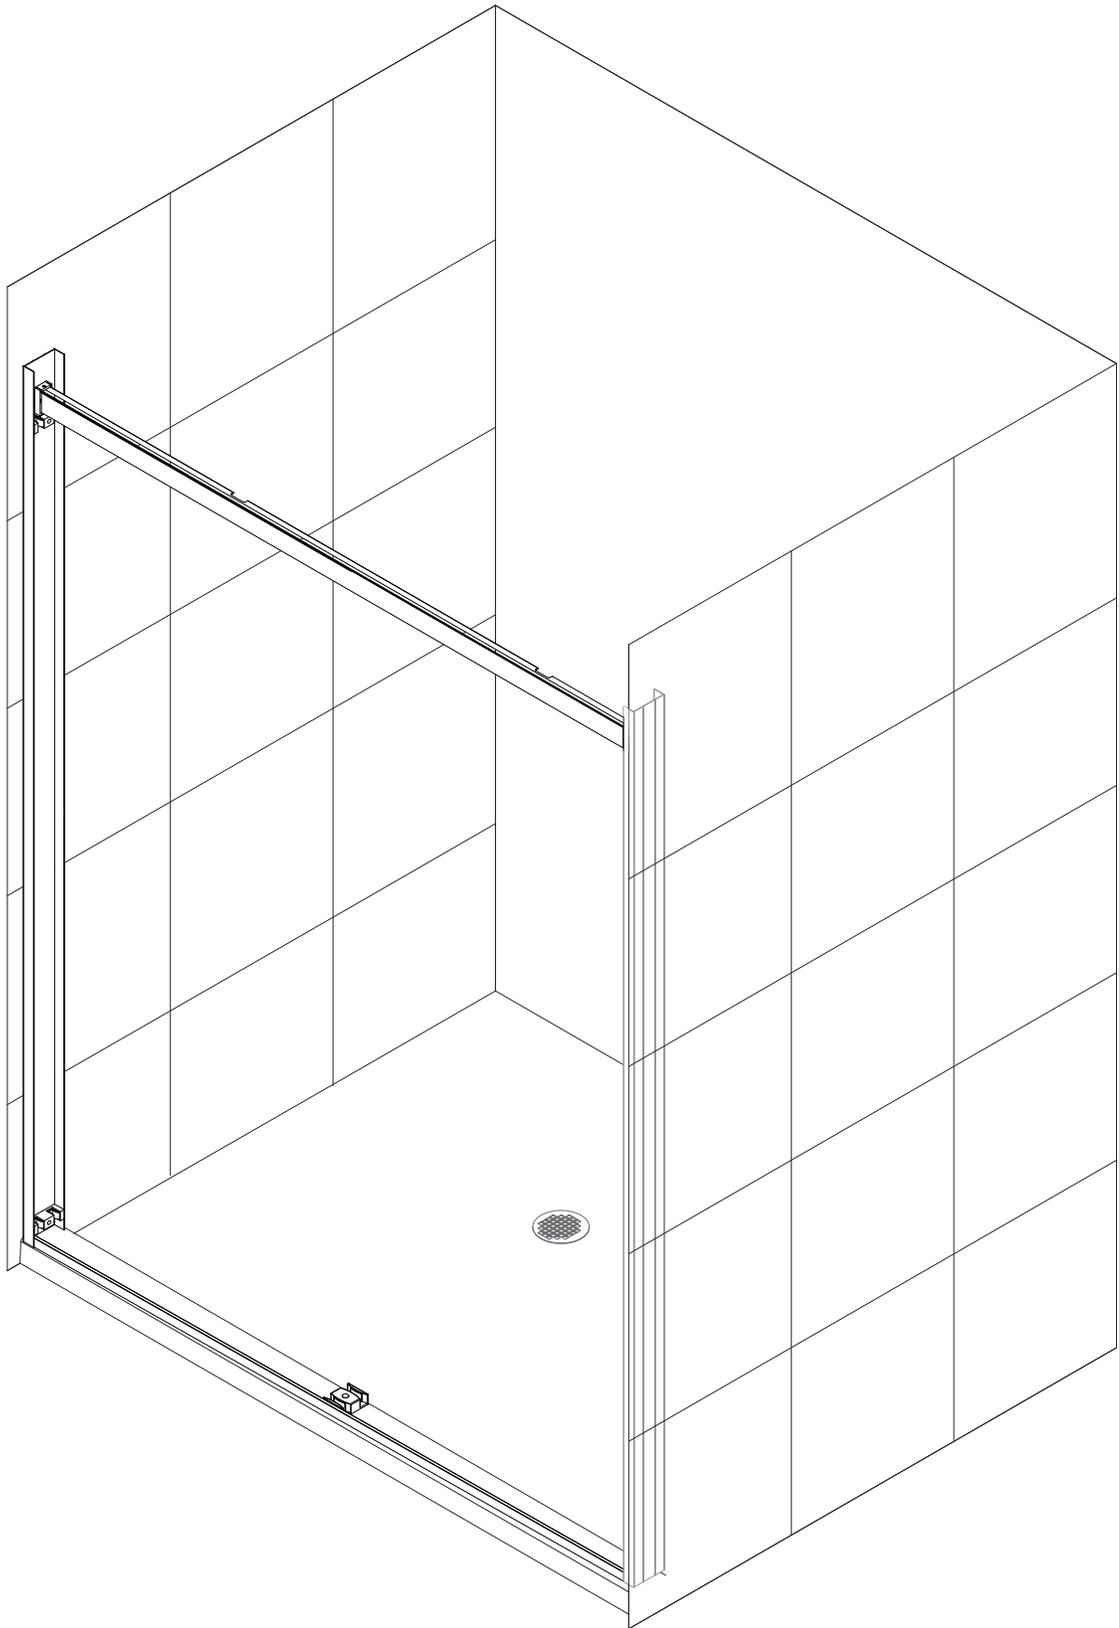

Fig 21
19. Next, prepare the doors for installation. **(Fig 21)**